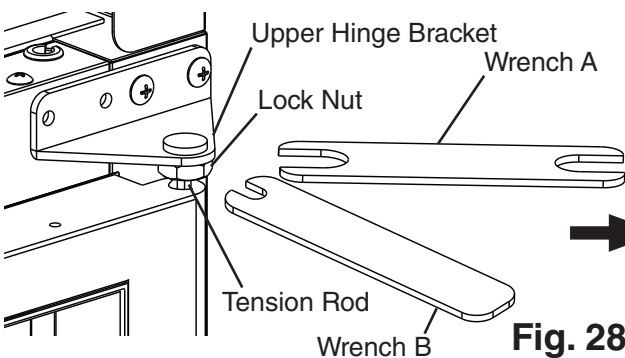

Fig. 28
- 4) Turn wrench B counter-clockwise to relieve tension on the tension rod. Without releasing the pressure on wrench B and the tension rod, use wrench A to tighten the lock nut. See Fig. 28.